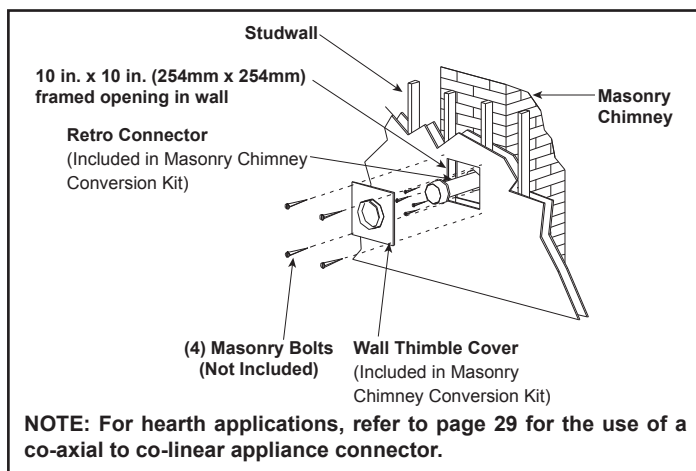

Figure 4.23
2. Once the center point of the penetration has been determined, cut a 6 in. (152mm) diameter hole in the masonry. If the hole is too large, the retro connector might not mount properly; if the hole is too small, the appliance might starve for intake air. If there is a frame wall in front of the masonry wall, cut and frame a 10 in. (254mm) square opening in the wall (centered around the 6 in. (152mm) masonry opening). If there is sheet rock only (no studs) in front of the masonry the 10 in. (254mm) opening is still needed, but does not need to be framed. If the hole is framed a wall thimble is required. This allows the retro connector to mount directly on the masonry and provide the correct clearances to combustibles. See Figure 4.23.
10. Slide wall thimble cover over retro connector and secure with masonry bolts. See Figure 4.28. If you have a framed wall in front of the masonry, use wood screws to mount wall thimble cover to framed wall, over retro connector and 10 in. (254mm) square framed opening. See Figure 4.23. If needed, add a section of direct vent pipe to the retro connector in order to extend through the opening in the wall thimble cover.